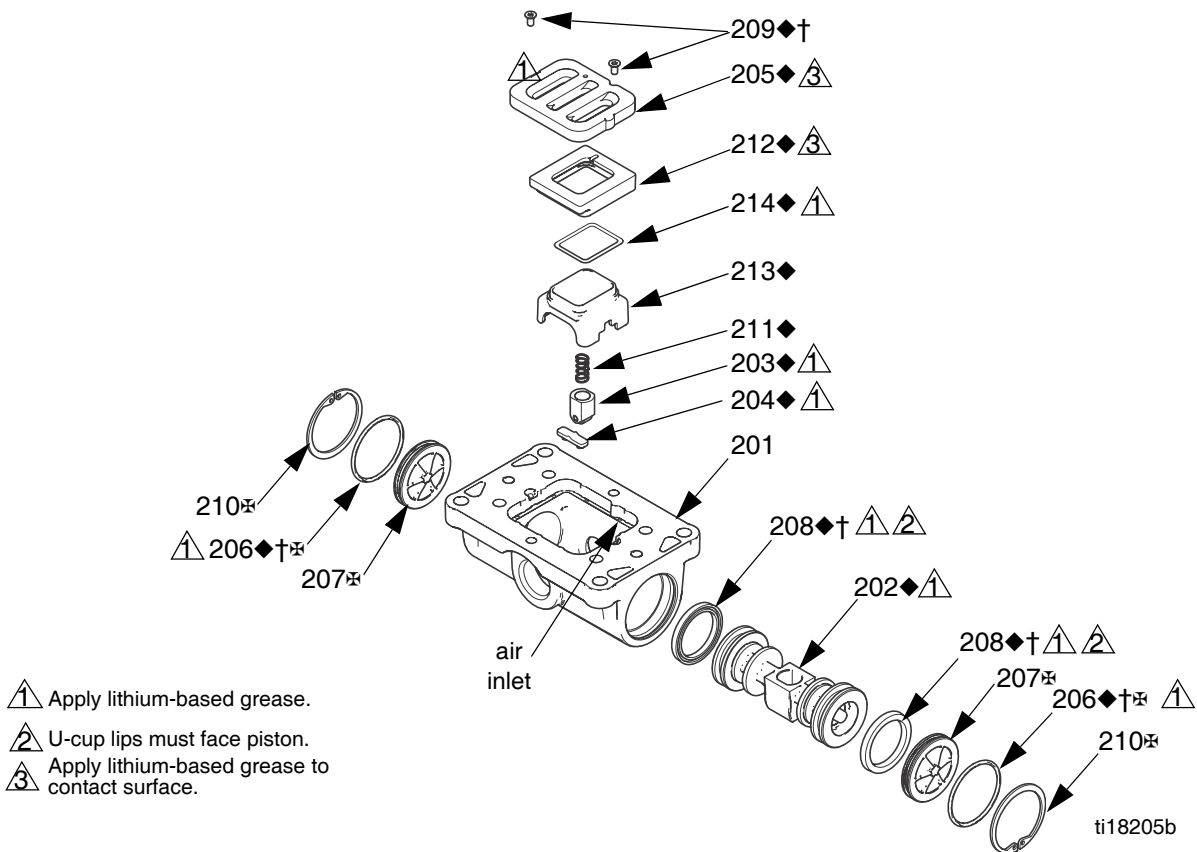

FIG. 3. Air valve assembly
2. See FIG. 3. Use a Torx screwdriver (T8 for aluminum centers, T9 for plastic centers) to remove two screws (209). Remove the valve plate (205), cupassembly (212-214), spring (211), and detent assembly (203).
3. Pull the cup (213) off of the base (212). Remove the o-ring (214) from the cup.
4. See FIG. 3. Remove the retaining ring (210) from each end of the air valve. Use the piston (202) to push the end caps (207, 217) out of the ends. Remove end cap o-rings (206).
5. Remove the u-cup seals (208) from each end of the piston (202), then remove the piston. Remove the detent cam (204) from the air valve housing (201).